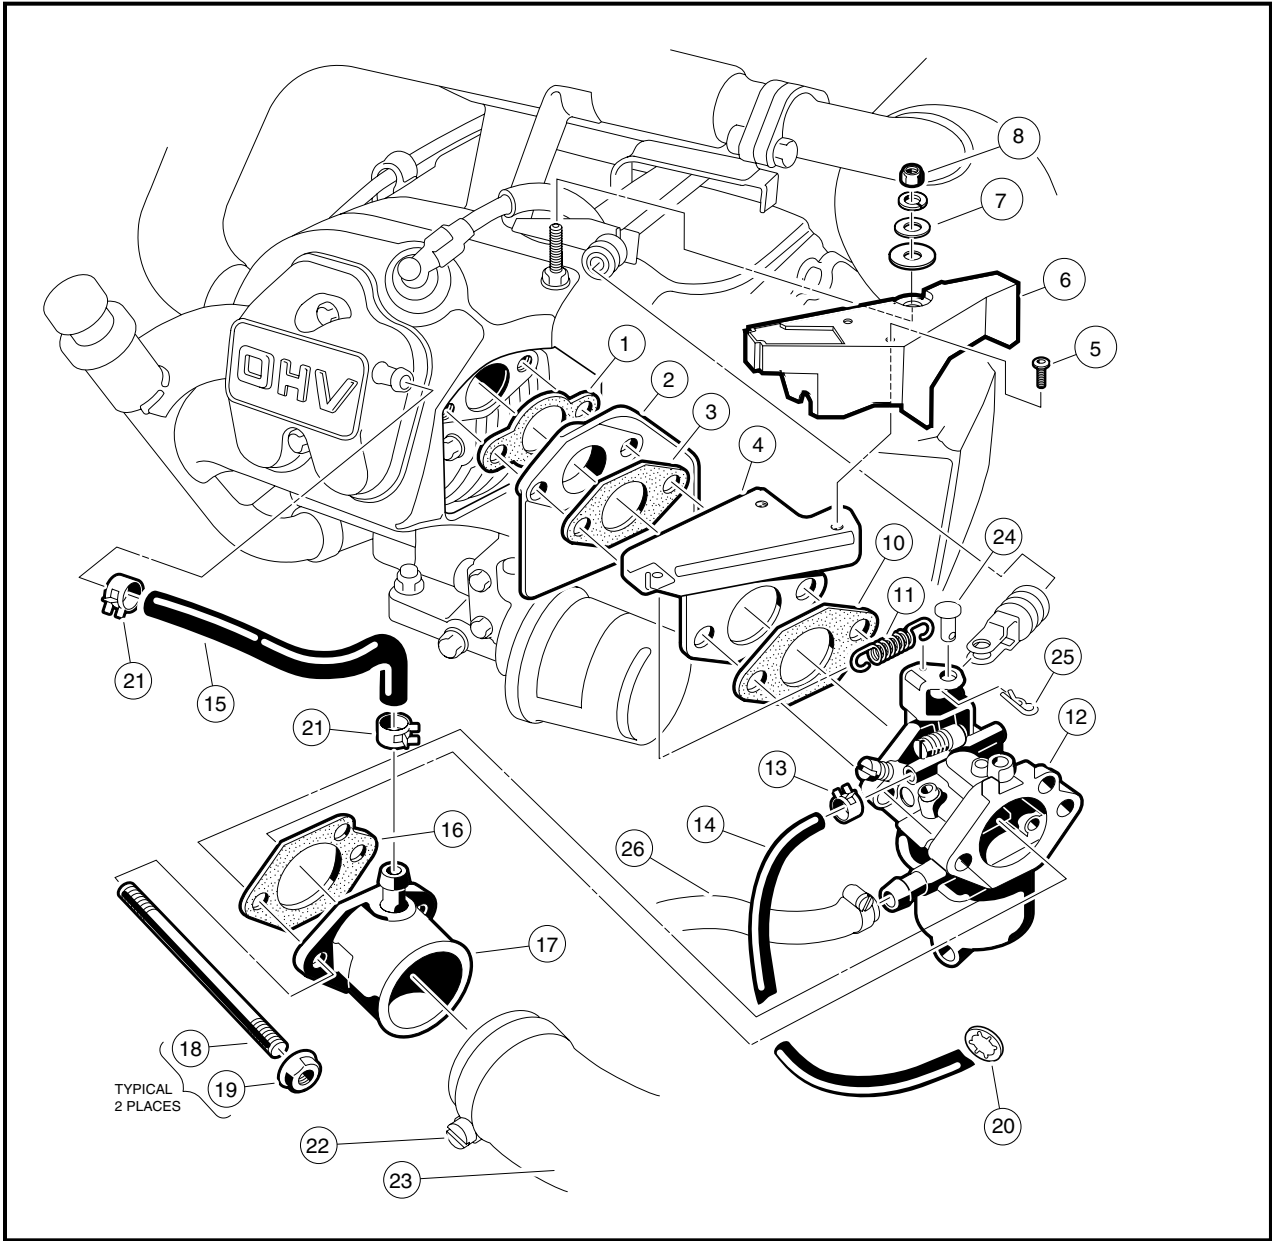

FIGURE 14-6
*The governor guard (6) used previously and shown in the 1995-1996 Maintenance and Service Manual in Figure 14-6 on Page 14-6, is replaced on the 1997 engine by the new governor guard (6) shown in the illustration at the top of page 138.*
2. Remove the governor guard (6) (**Figure 14-6**).
3. Remove the spring cotter (25) and clevis pin (24) at the carburetor throttle bracket (**Figure 14-6, Page 138**).